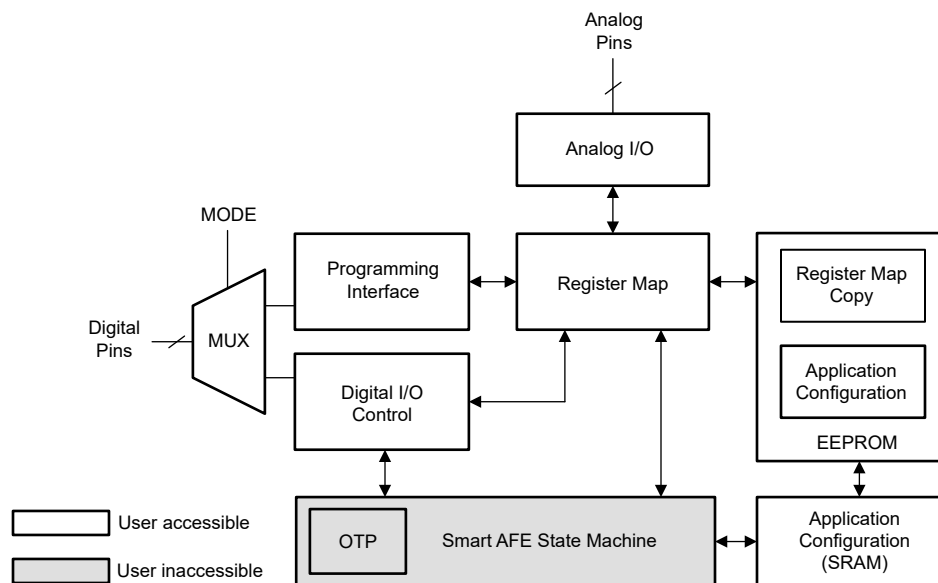

Figure 7-4. Smart AFE Architecture
The AFE_{x39xx} feature a programmable state machine supporting arithmetic, logic, and timing operations, as shown in Figure 7-4. This state machine has been pre-programmed as a proportional-integral (PI) controller allowing the user to program the coefficients and input-output parameters. The details of the PI controller are discussed in Section 7.4.6. The user configurations are stored in the NVM and the state machine can be operated in standalone mode without interfacing to a processor (*processor-less* operation)